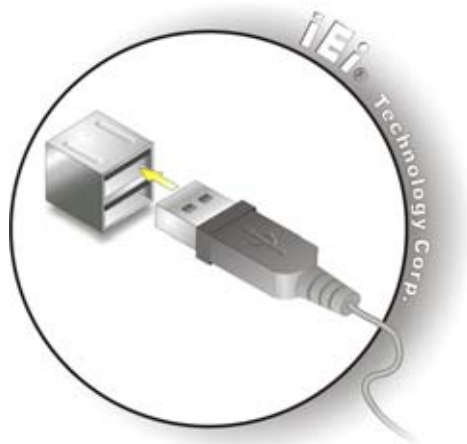

Figure 2-4: USB Device Connection
Step 2: Align the connectors. Align the USB device connector with one of the connectors on the bottom panel. See **Figure 2-4**.